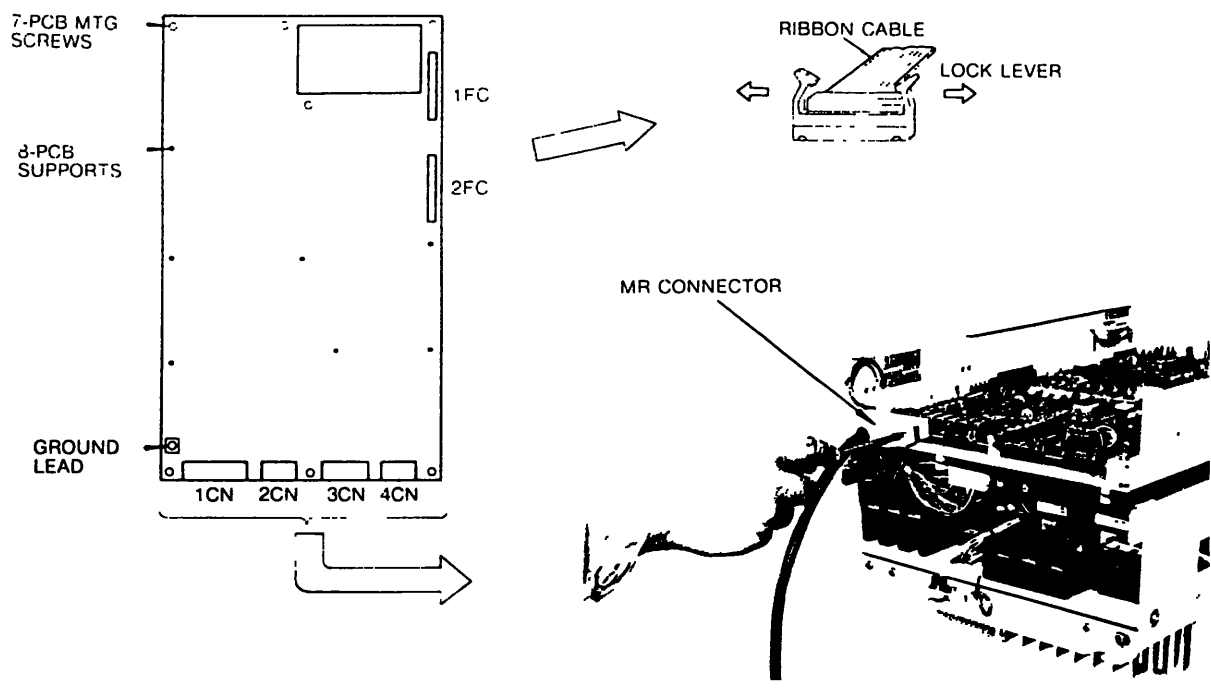

Fig 9.2 Removal of Control Circuit Board
### (1) Removal Procedures (Fig. 9.2)